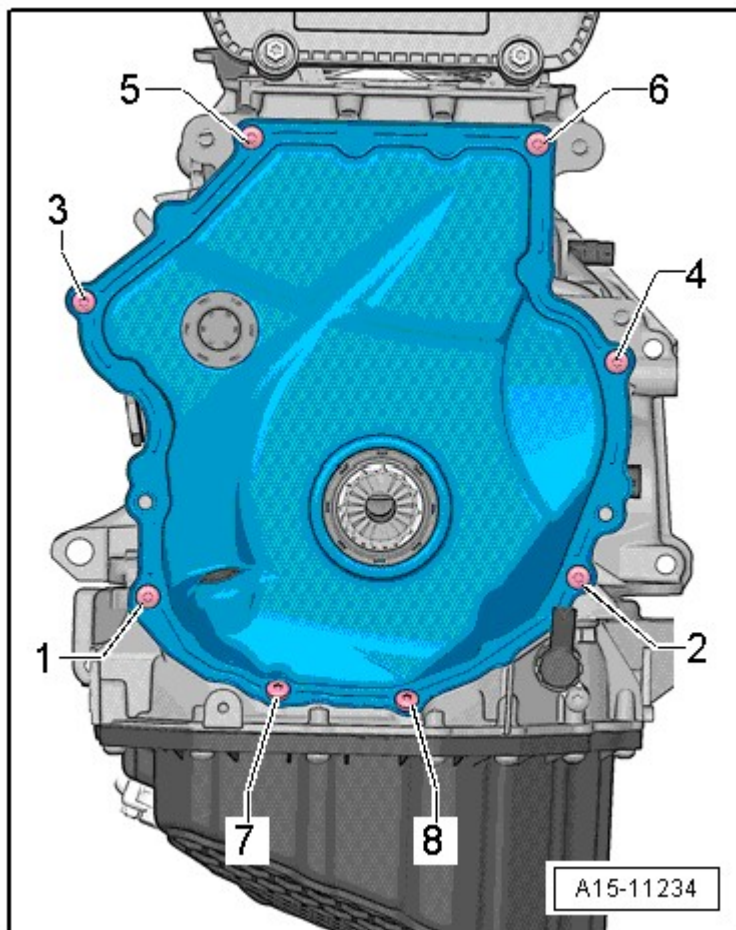

Fig. 6: Identifying Timing Chain Guard Lower Section - Tightening Sequence for 8 Bolts
- Tightening sequence with 8 bolts, refer to **Fig. 6**